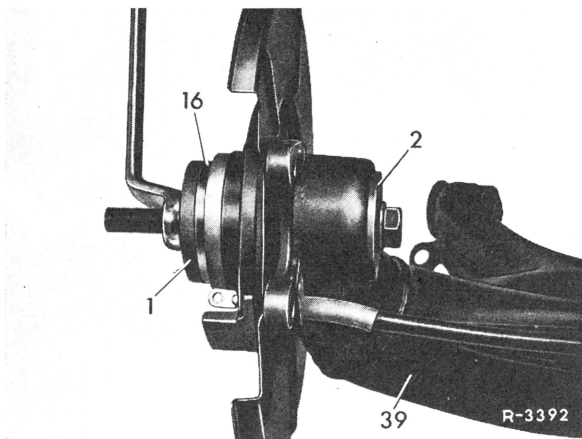

Fig. 15
**14** Install both bearing outer races in wheel carrier with installation tool (Fig. 15).